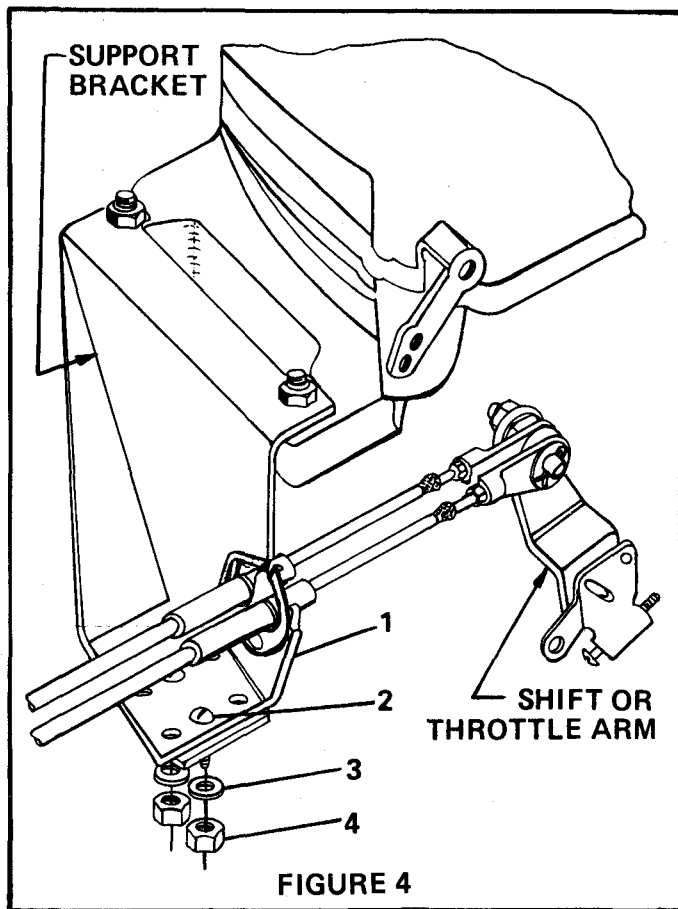

FIGURE 4
NOTE: A Support Bracket similar to that shown in Figure 4 must be supplied to provide a mounting surface for the Cable Bracket Assembly. It must be constructed so that dimensions shown in Figures 1, 2 or 3, may be maintained, and allow an unrestricted path for cable installation and operation.
1. Attach Cable Bracket Assembly (Item 1) to mounting bracket as shown in Figure 4, using two each Machine Screws (Item 2), Lockwashers (Item 3) and Hex Nuts (Item 4). Tighten hardware securely.
2. Place cables into slots in Cable Bracket assembly and lock in place with clips as shown in Figure 4.